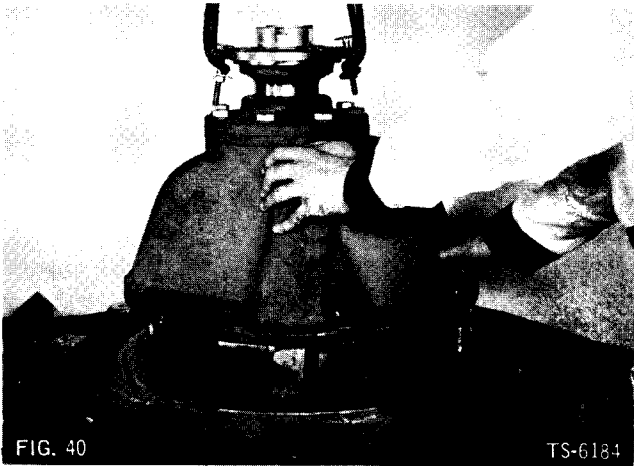

FIG. 40
39. Lift differential and carrier assembly from axle housing with hoist (Fig. 40). If necessary, break seal between parts by tapping with plastic hammer. Remove differential gasket.